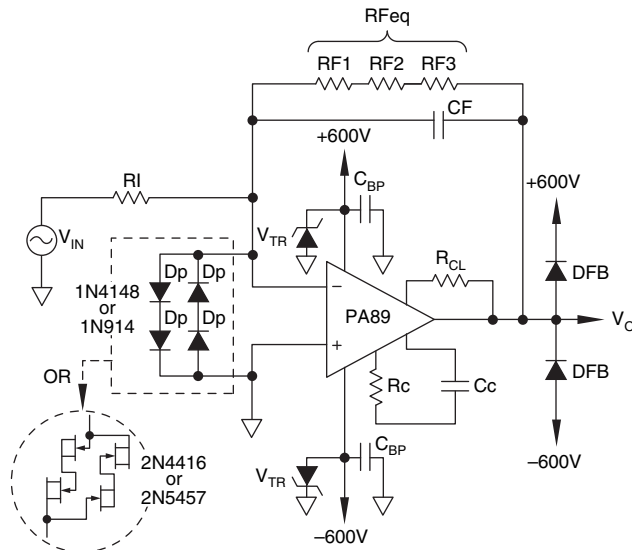

FIGURE 10. HIGH VOLTAGE SUPPORT COMPONENTS
2) Input Protection (Refer to Figure 10):
3) Output Diodes (Refer to Figure 10):
4) Transient Voltage Suppressors (See Figure 10):
5) Power Supply Bypassing (See Figure 10):
6) Compensation Capacitor and Resistor (See Figure 10):
7) Feedback and Input Components (See Figure 10):
8) Current Limit Resistor (See Figure 10):